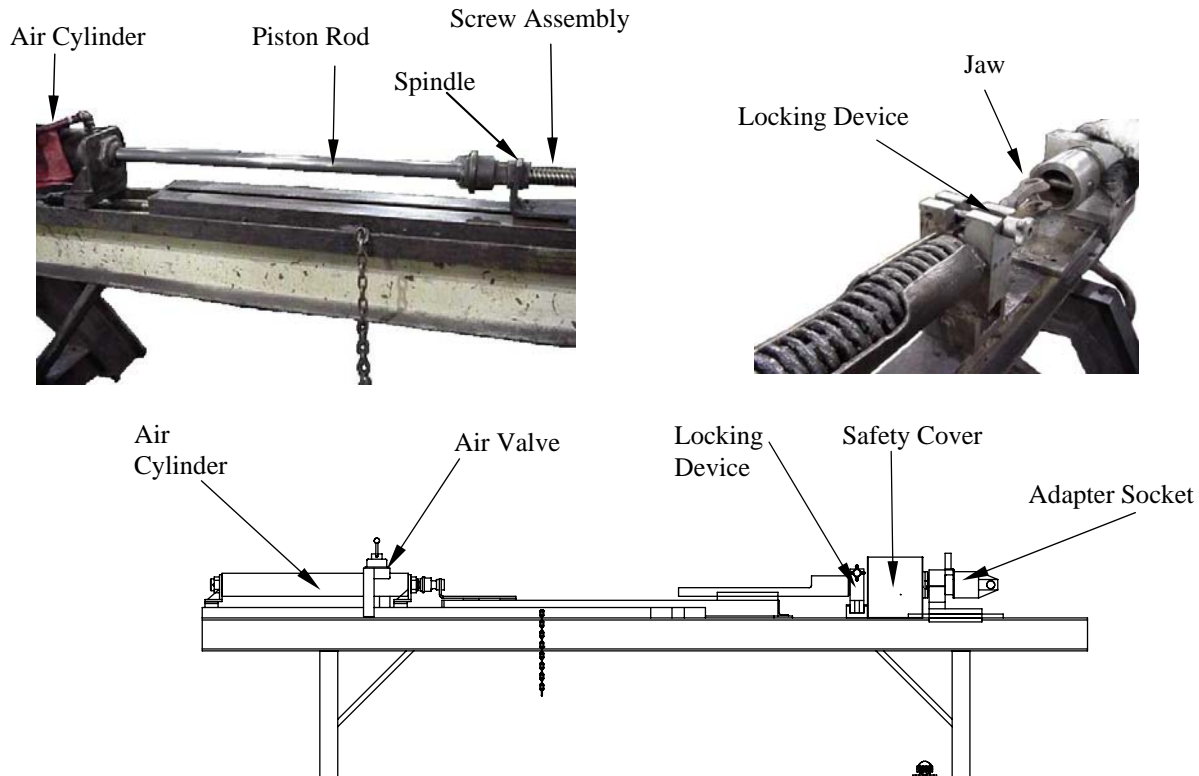

Figure 2: 2000-DJ Slack Adjuster Spring Removal Fixture
5.2 Ellcon-National recommends that a load spring removal fixture be used for removal and replacement of load spring (Figure 2).
- 7.1 Place sub-assembly into spring removal fixture (see Figure 2) Part No. 4183 Loose Jaw, to operator’s right when facing fixture. Activate air cylinder piston rod to contact end of Part No. 3810 Screw Assembly. Align end of screw with hole in spindle.